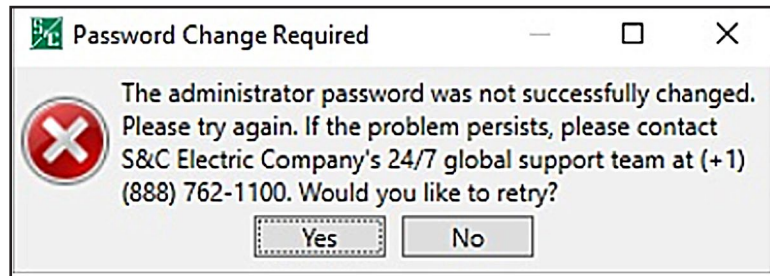

Figure 45. The Password Change Required dialog box.
- STEP 4.** When the password was not successfully changed, the Password Change Required dialog box opens. See Figure 45. Click on the **Yes** button to change the password again and go back to Step 2 on page 113.